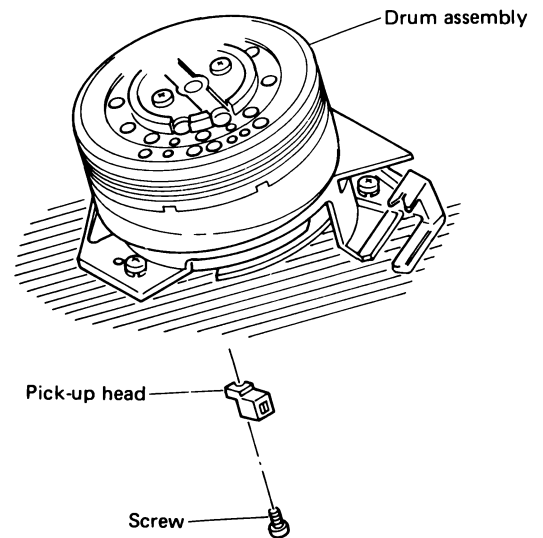

Fig. 2-16 Pick-up head replacement
2.3.11 Pick-up Head (See Figure 2-16.)